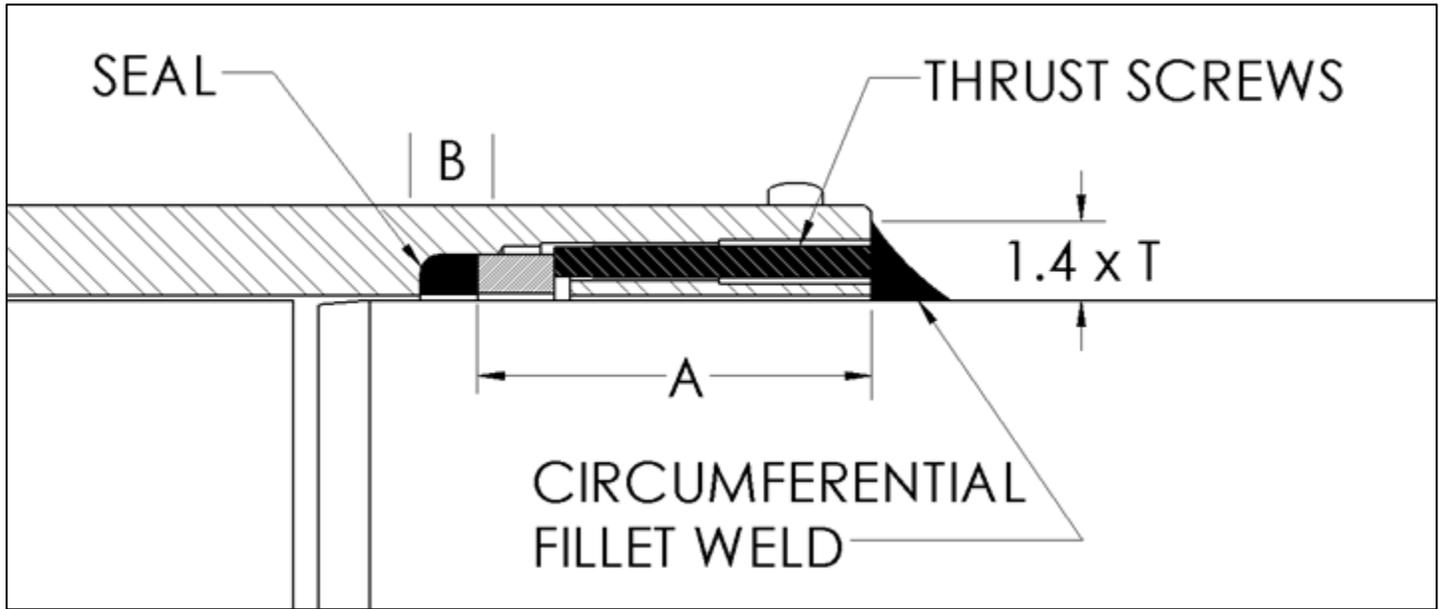

Figure 9
1. Cut thrust screws so they are flush with the PLIDCO Half Weld+End. (See Figure 9)
2. Add a fillet weld to the end of the Half Weld+End around the circumference of the pipe, and seal weld the End of the cut off thrust screws. (See Figure 9)